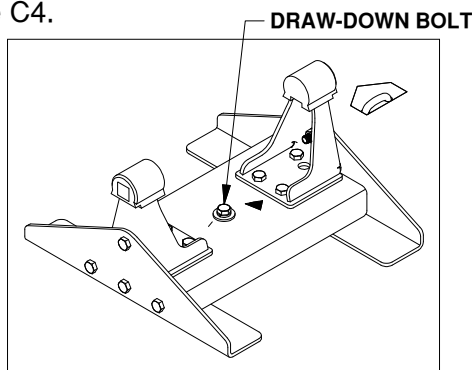

FIGURE C4. View of Companion base.
- Tighten the 1/2" x 3-1/2" draw-down bolt to 60 ft-lbs, see figure C4.